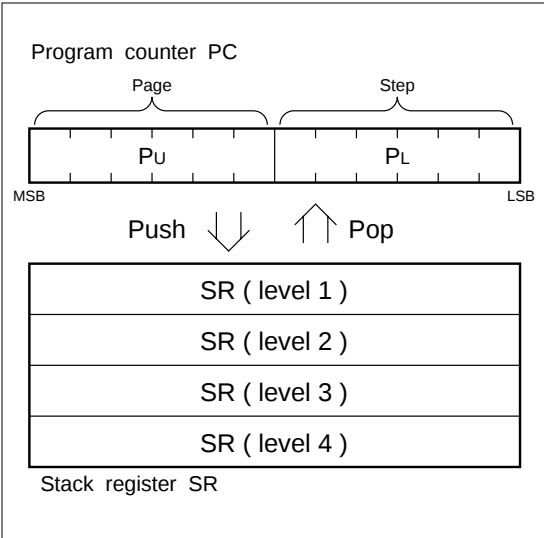

Fig. 6 Program Counter PC and Stack Register SR
A ROM address is specified by the program counter (PC). The PC comprises 12-bit where 6-bit (P_U) are used to specify the page (see Fig. 6) and 6-bit (P_L) are used to specify the step. P_U is a register and P_L is a binary counter.